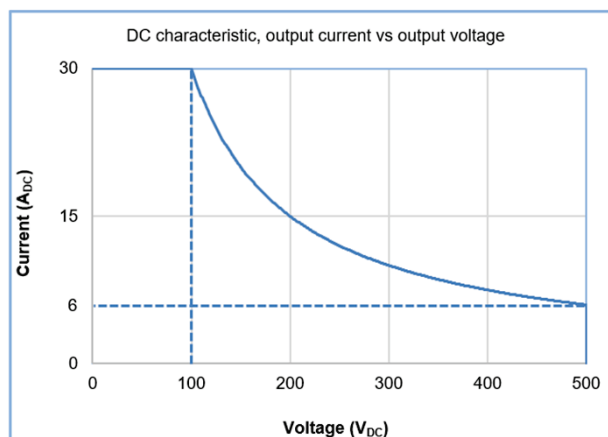
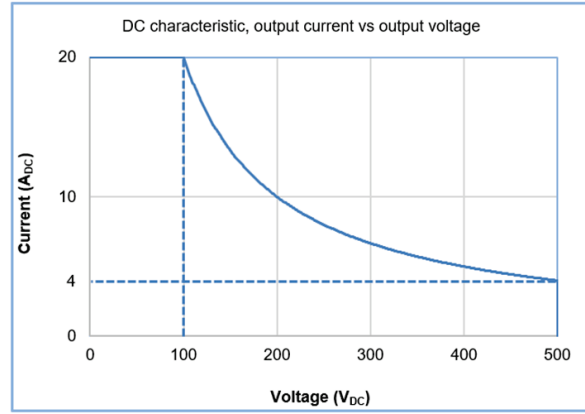

Figure 2: 3kW DC characteristic
Figure 4: 2kW DC characteristic
- *6: Maximum DC voltage setting range is associated with the output current setting. When the output current setting is above 4A for 2kW or 6A for 3kW, the output voltage setting is limited to rated output power. Refer to Figure 2 and Figure 4.